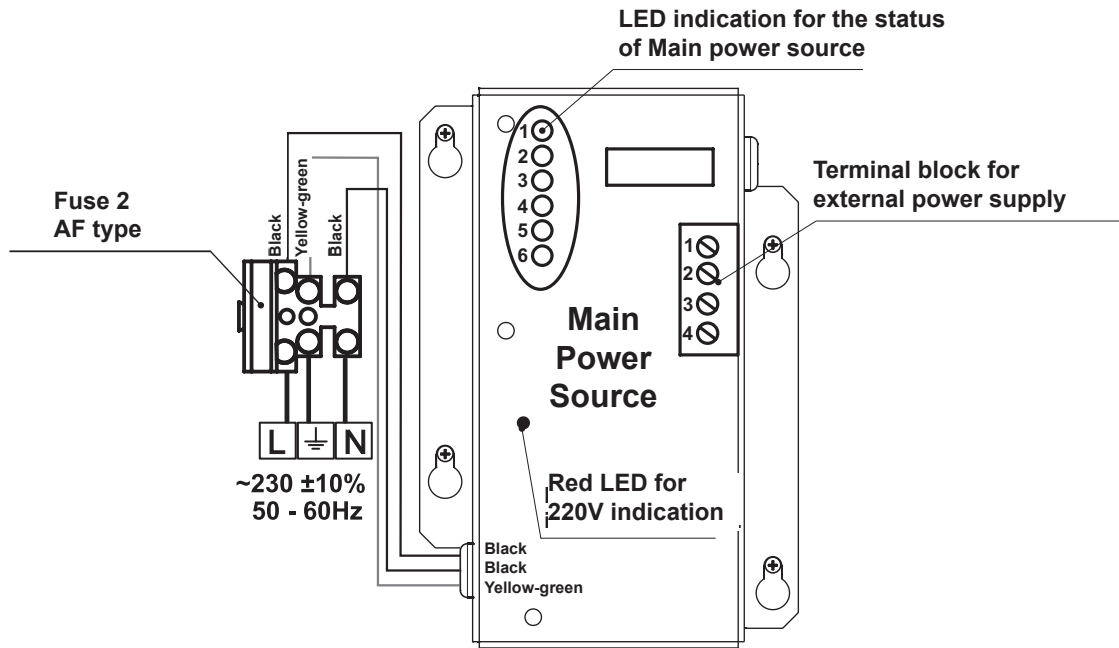

Figure 17. General view of the power source and the terminal.
- Connect the mains supply and earth to the power supply terminal (see Figure 17) BUT DO NOT apply the main electrical supply at this stage.